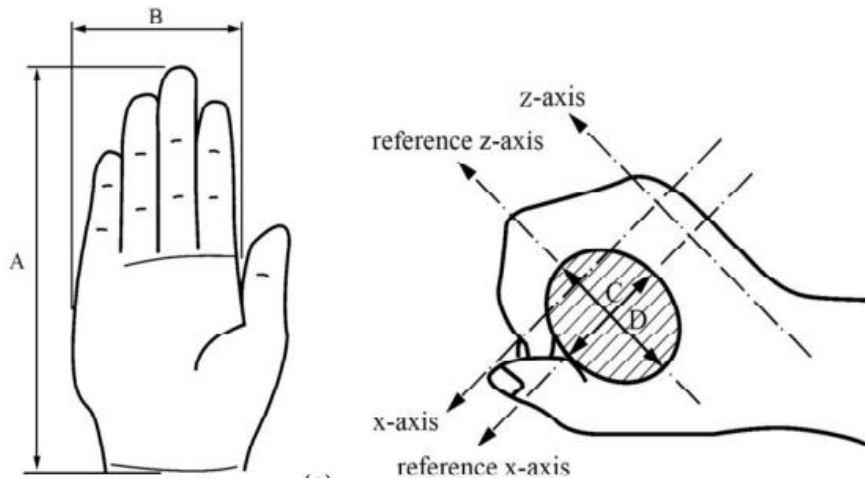

Figure 2. (Wang and Cai, 2023)
- Consider dimensions A, C and D, and grip position illustrated in figure 2 for holding the device.